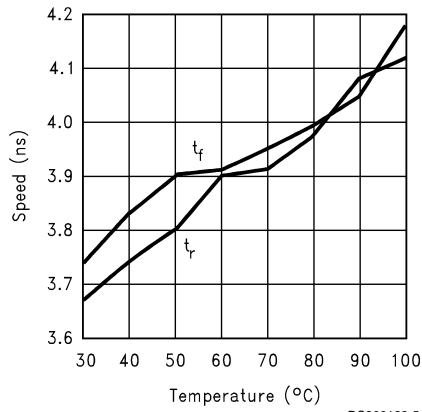

FIGURE 4. Speed vs Temp.
*Figure 4* shows the performance of the LM2463 in the test circuit shown in *Figure 2* as a function of case temperature. The figure shows that the rise and fall times of the LM2463 increase by approximately 10% as the case temperature increases from 50°C to 100°C. This corresponds to a speed degradation of 2% for every 10°C rise in case temperature.